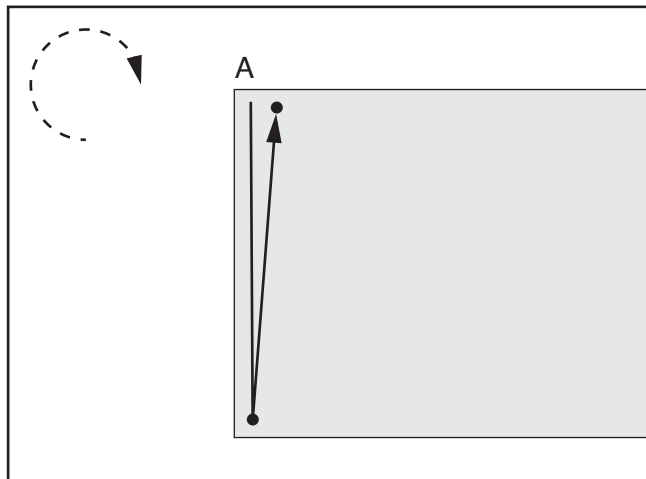

Figure 25. Workpiece turned clockwise.
5. Turn workpiece clockwise (see **Figure 25**).